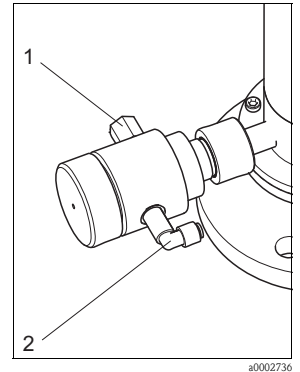

Fig. 19: Outlet safety seal
2. Mount the delivered pneumatic outlet safety seal (Fig. 19).
5. Connect the third fitting of the Y-piece to the compressed air connector of the outlet safety seal (Fig. 19, pos. 2).
6. Connect the rinse water outlet hose to the valve connector (pos. 1, G $\frac{1}{4}$ or NPT $\frac{1}{4}$ ", depending . to ordered version).